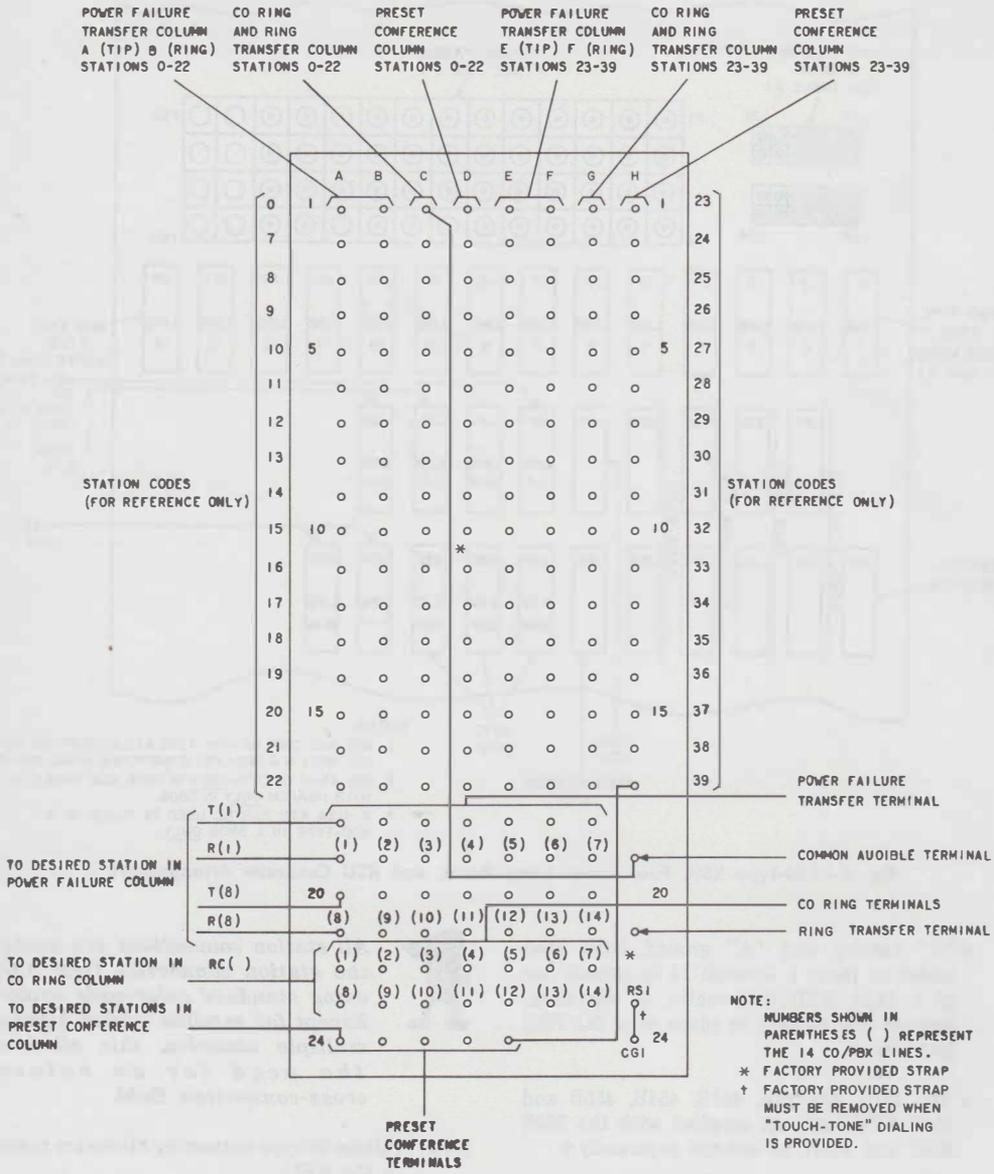

Fig. 4—Terminal Arrangement for Connecting Block 10
- (a) Connecting block 1 (Fig. 4) provides the terminals on which option straps are placed for connecting power failure ringing, CO ringing, preset conference, and ring transfer.